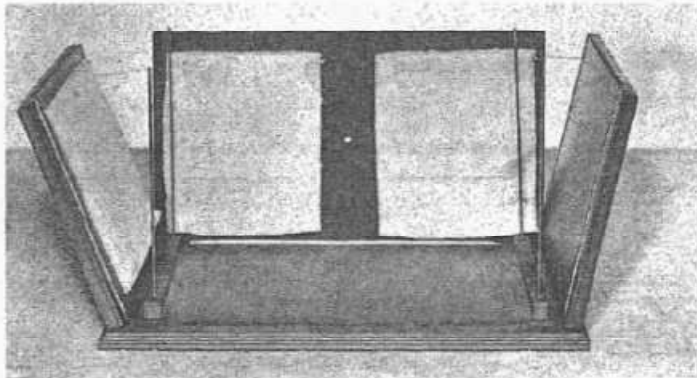

Figure 4A
- Align the back panel with the groove (Figure 4A) and press firmly into place.